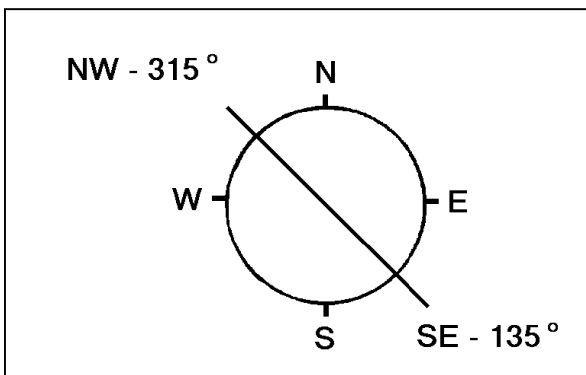

Figure 16: Method of determining aspect
**Aspect** is determined by taking a compass reading while facing down a slope. The direction water would run gives the compass direction. Any slope facing north and east of a line extending from northwest (315NW) to southeast (135SE) is considered to have a desirable northeast aspect. Any slope facing south and west of the same line is considered to have a less desirable southwest aspect. See figure 16.